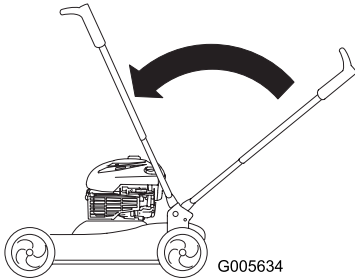

Figure 38
2. Rotate the handle forward (Figure 38).